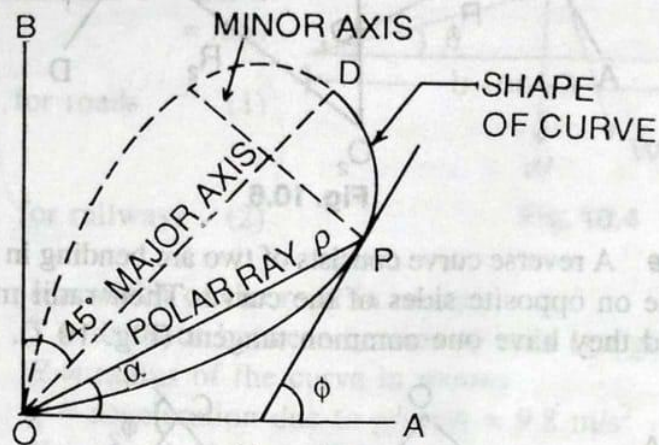

Fig. 10.9
5. Lemniscate curve A lemniscate curve is similar to a transition curve, and is generally adopted in city roads where the deflection angle is large. In Fig. 10.9, OPD shows the shape of such a curve. The curve is designed by taking a major axis OD, minor axis PP', with origin O, and axes OA and OB. OP(ρ) is known as the polar ray, and α as the polar angle.